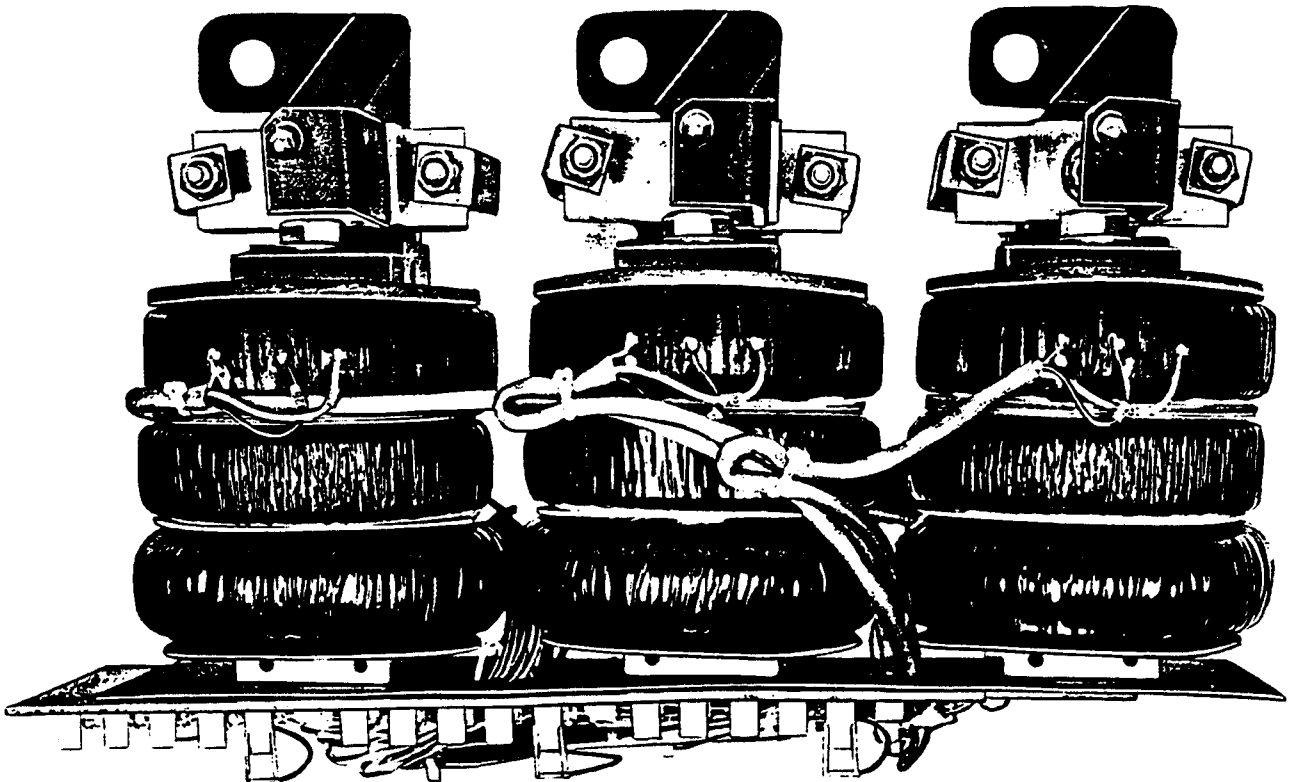

Figure 14. (8041866) Magnetic Coils
1. The magnetic coils around the breaker conductors (Figure 14).
**SENSOR COILS (Figure 14).**